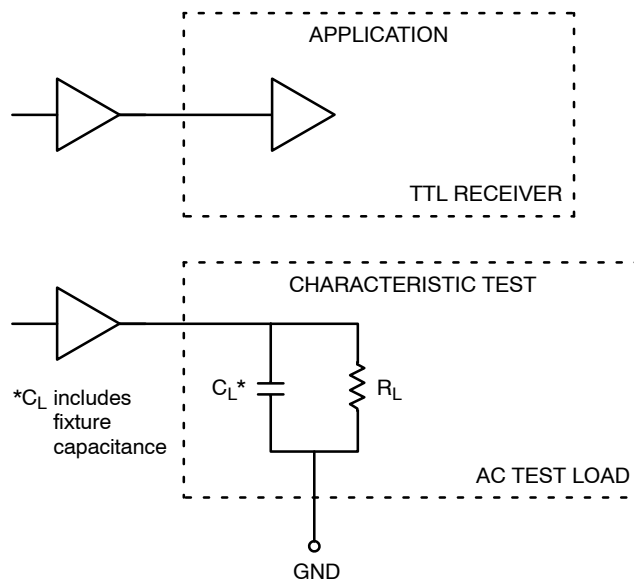

Figure 2. TTL Output Loading Used for Device Evaluation
7. $R_L = 500\ \Omega$ to GND and $C_L = 20\ \text{pF}$ to GND. Refer to Figure 2.